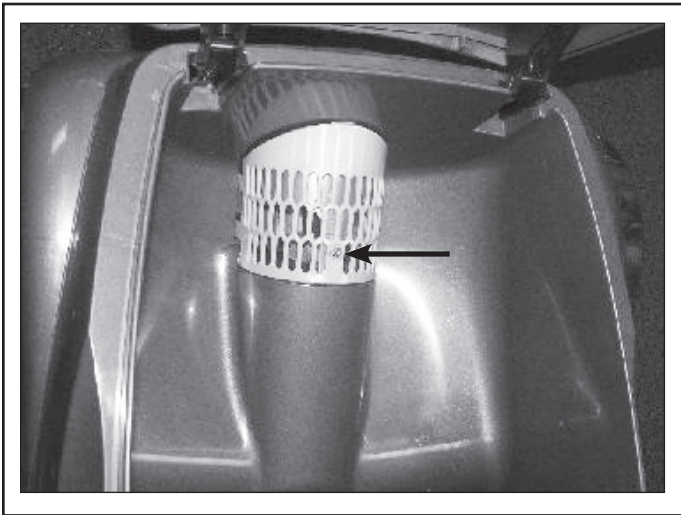

Figure 6. Remove the Propeller Guard
1. Open the cleaner top and remove the filter canister. Unthread the screw securing the prop guard in place and remove the propeller guard (see Figure 6).